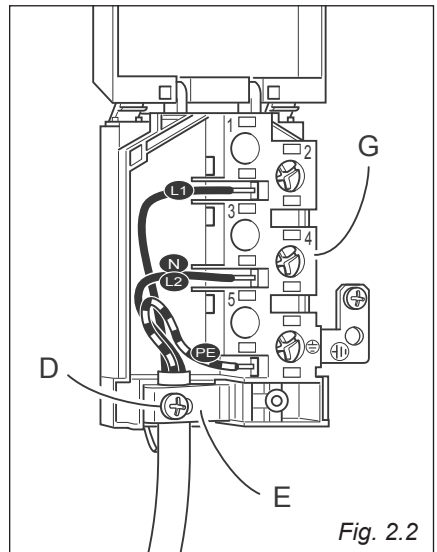

Fig. 2.2
- Unscrew the screw “D” and open completely the cable clamp “E” (fig. 2.2).